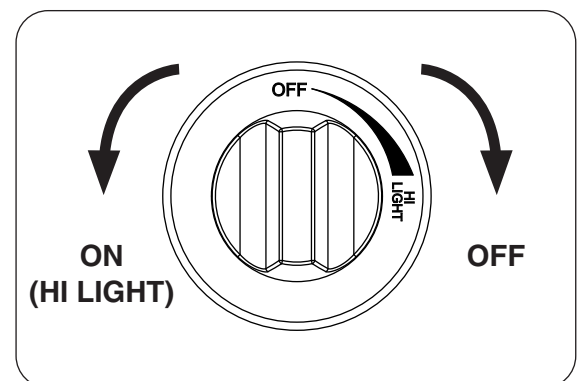

Fig. 51-2
4. **Once the match is burning and in position**, depress the gas control knob and turn it counter-clockwise to the **HI LIGHT** position (see Fig. 51-2). Your burner should light.
**WARNING:** If the burner does not light within five (5) seconds of turning the control knob, immediately depress the control knob and turn clockwise to the **OFF** position.
**To extinguish your gas burner**, depress the gas control knob and turn it clockwise to the **OFF** position (see Fig. 51-2). Be sure the control knob is turned fully off to avoid any gas leakage.